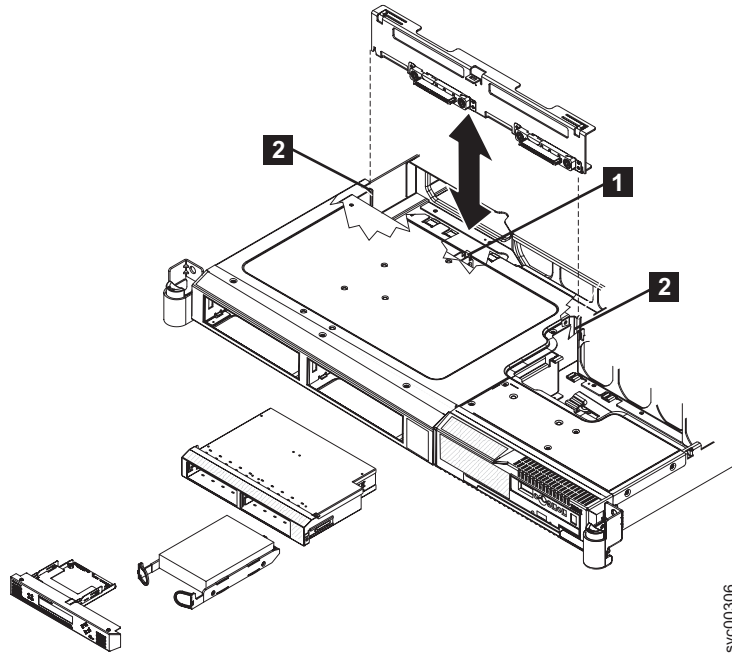

Figure 102. The SAN Volume Controller 2145-8G4 SATA disk drive and back plate
2. Slide the back plate into the mounting channels **2**, which are shown in Figure 102 on page 120, making sure not to trap or pinch any nearby wires or cables.